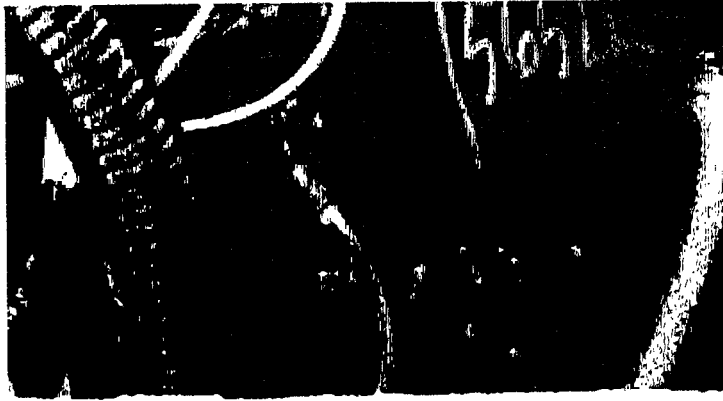

Fig.2
5. From under the front driver's side corner of the unit, gently pull the harness through the opening in the electrical box. Attach the #10 ring terminal to the fire wall frame as shown in figure 2 using an internal tooth star washer.